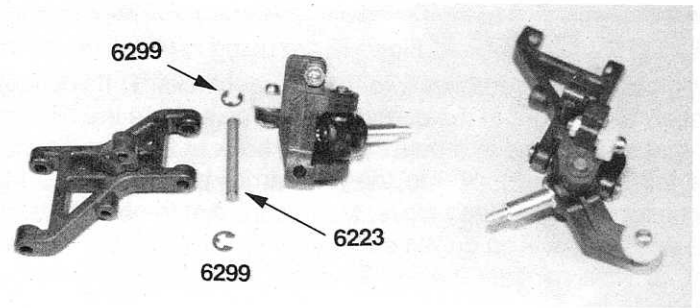
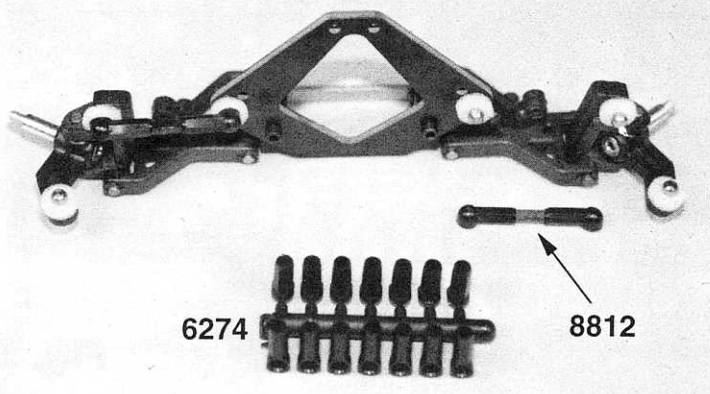

Fig. 13
Fig. 19
□ **Fig. 13** 1) Now we need to remove four of the #6299 E-clips we put back in bag #8-1. We are now going to attach the front axle assembly to the front suspension arm. The shock mount will be on the front side of the arm and we will want the front of the axle assembly on the same side. 2) We will start with the left side. Use the block carrier with the "L" scribed into the front. Take one of the #6223 hardened steel pins and slide it through the rear hole of the suspension arm, then the axle block carrier, and finally through the front hole of the suspension arm. We want the pin to be tight when going through the axle block carrier, but not the arm. 3) Now center the pin and install a E-clip onto each end of the pin. 4) Repeat the above steps for the right arm and axle block carrier. Remember to keep the "R" to the front of the arm. Fig. 19 shows both front arms with the axle block carrier assemblies installed.
6) Thread the cups on until you reach a length of 1 9/32" (1.28" or 32.5mm) **THESE DIMENSIONS ARE MEASURED TO THE CENTERS OF THE BALL CUP SOCKETS, NOT THE ENDS OF THE SOCKETS**, as shown in the scale drawing below. When assembled and adjusted correctly both ball end cups will be facing the same direction. 7) Now look at fig. 19 and use your needlenose pliers to snap the turnbuckle ball end cups onto the four ball ends.